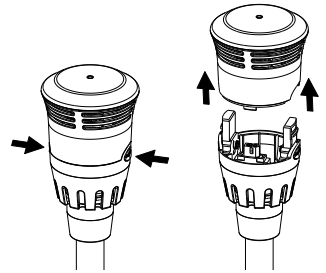

Fig. 7
2. Remove top of fixture by squeezing two buttons and set aside for use later. (Fig. 7)
6. Replace fixture head assemblies on all fixtures removed in Fig. 7.